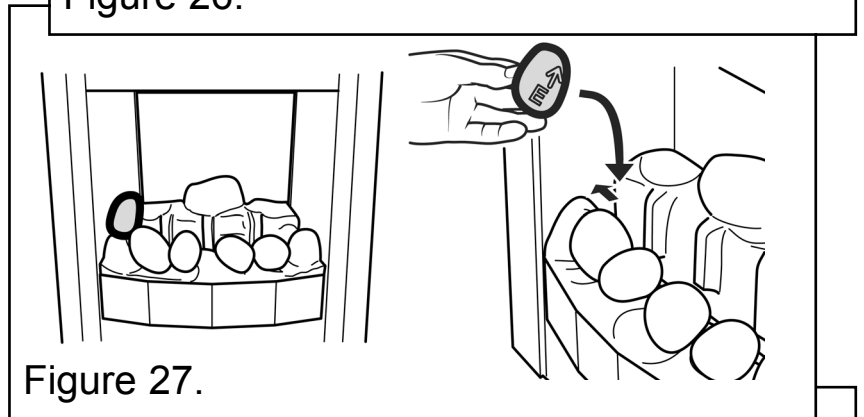

Figure 27.
8. Hold pebble 'E' upright with the arrow pointing to the top. Place pebble 'E' between the front and rear base pebbles. It should rest against the side of the firebox. (See figure 27).